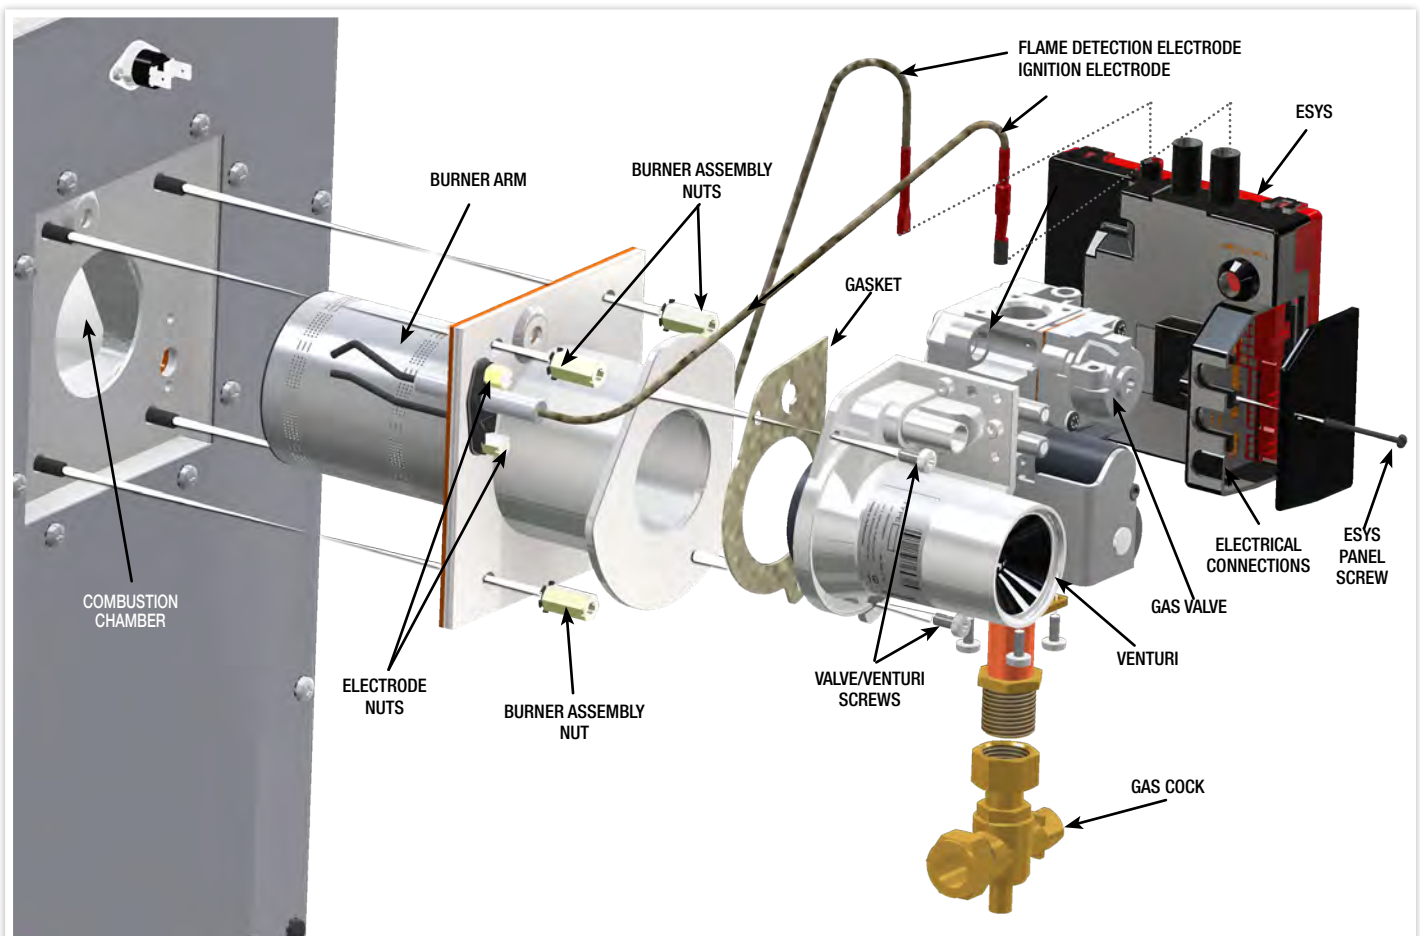

FIGURE 29. MAIN BURNER ASSEMBLY
- 17.11.1 Refer to section 16.3. See Figure 29.
- 17.12.1 Refer to section 16.3. See Figure 29.
- 17.13.1 Refer to section 16.3. See Figure 29.